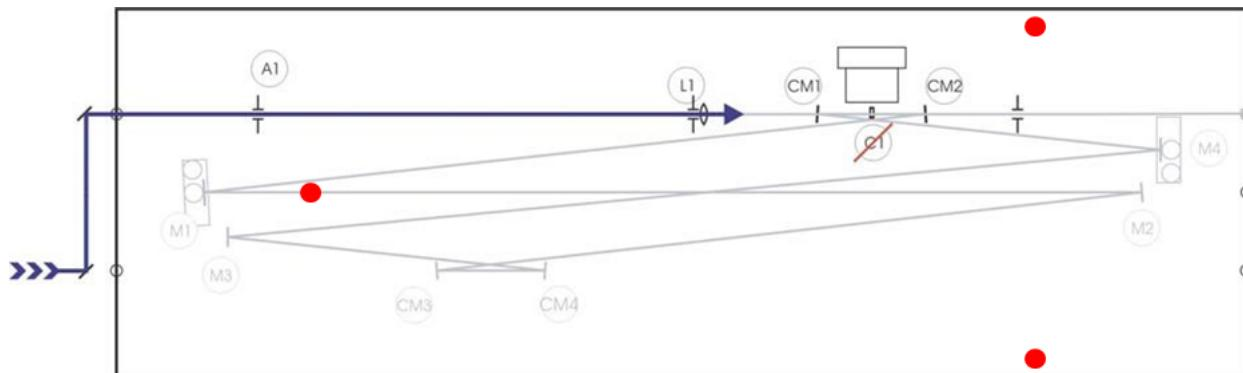

Figure 5.3.: Initial pump beam alignment into the OPO. The positions of the leveling screws and feet for clamping are marked as red circles.
- Put the OPO on the optical table behind the laser with two beam steering mirrors between both instruments, so that the pump beam enters the entrance window perpendicular and centered (see figure 5.3).
- Level the OPO horizontally exactly to the height of the pump laser. Use the leveling screws (see Figure 5.3) to change the height of the OPO. Close aperture A1 and place the plug aperture at position A3.
- Center the input beam with the two pump beam steering mirrors on A1 and A3 (Fig. 5.3). Remove plug aperture from A3 and check if the pump beam position is centered also at position A2.